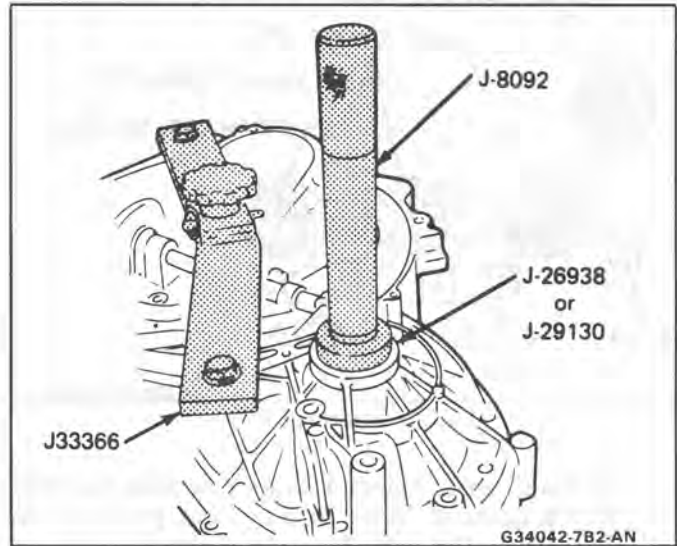

Fig. 43 Drive Axle Seals
19. Install drive axle seals using J 26938 or J 29130 with J 8092 (Fig. 43).